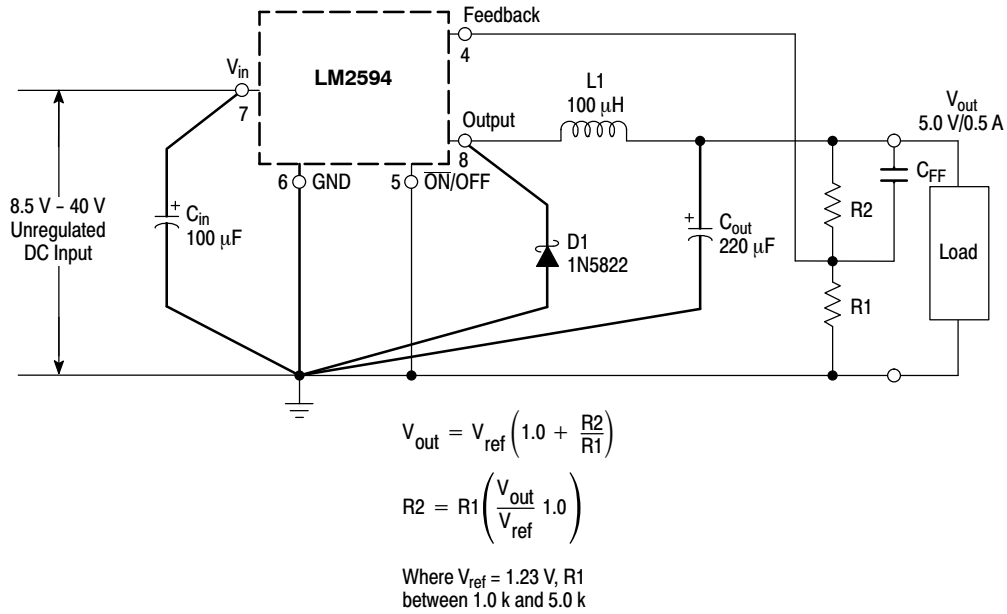

Figure 16. Typical Test Circuit
LM2594 (Note 1, Test Circuit Figure 16)
- External components such as the catch diode, inductor, input and output capacitors can affect switching regulator system performance. When the LM2594 is used as shown in the Figure 16 test circuit, system performance will be as shown in system parameters section.
## TYPICAL PERFORMANCE CHARACTERISTICS (Circuit of Figure 16)
As in any switching regulator, the layout of the printed circuit board is very important. Rapidly switching currents associated with wiring inductance, stray capacitance and parasitic inductance of the printed circuit board traces can generate voltage transients which can generate electromagnetic interferences (EMI) and affect the desired operation. As indicated in the Figure 16, to minimize inductance and ground loops, the length of the leads indicated by heavy lines should be kept as short as possible.